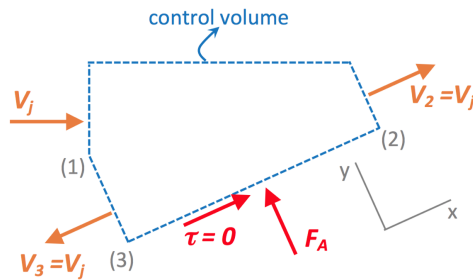

Figure 7: See problem 3.
**Solution:** *Control volume:* The non-deforming control volume shown in Figure 7 is used.